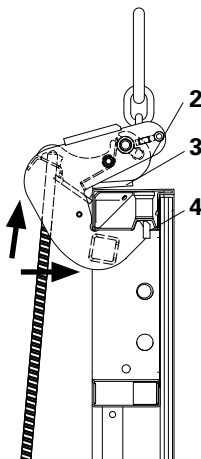

Fig. 5
1. Push back the clamping jaw (2) by hand or with a tie rod against the spring resistance until the outermost position is reached and then push the Lifting Hook over the edge profile until the support cam (4) is locked in place in the edge profile beading. (Fig. 5)
2. The clamping jaw (2) closes due to the spring resistance. The Lifting Hook is held in a closed position through the strength of the spring, also with traction relief.
The pressure plate (3) must lie full-faced on the edge profile. (Fig. 5)